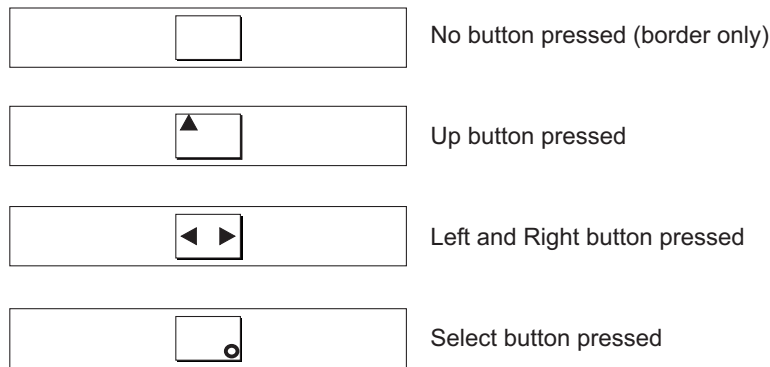

Figure 36. Front panel display when push buttons are pressed
3. Press the up, down, left, and right buttons to verify that they are working. Figure 36 shows four examples of what the front panel should display when you press the buttons. When you have finished testing the buttons, press and hold the select button for five seconds in order to exit the test.